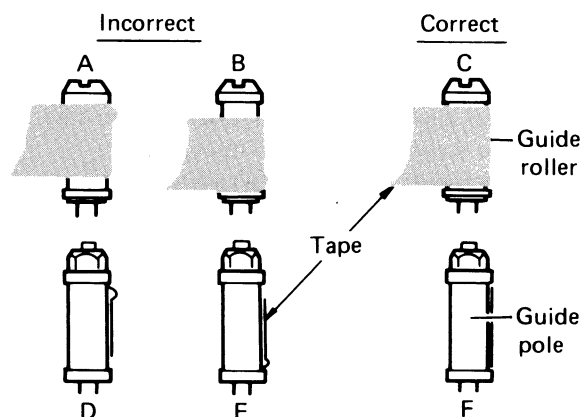
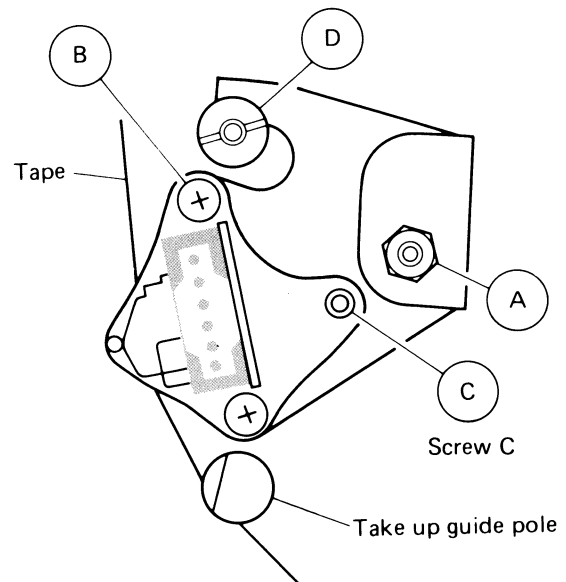

Fig. 10 Guide roller and guide pole
Fig. 14 Take-up guide pole
3. During loading, Play and Unloading, observe the tape at the supply guide rollers and poles, and take-up guide rollers. Confirm absence of curling, wrinkling, etc., as shown in Fig. 10.
2. Turn audio/control head screw **(C)** as shown in **Fig. 14** and adjust for smooth transport at the take-up guide pole as shown by **F** of **Fig. 10**.